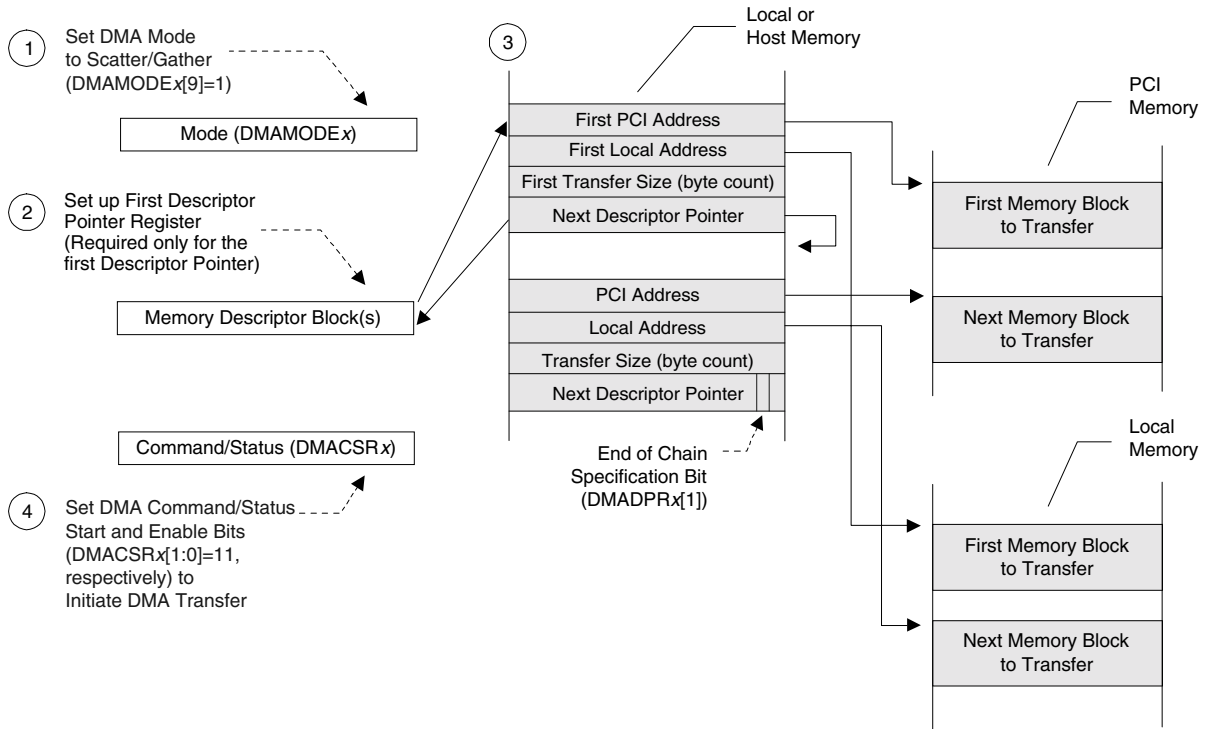

Figure 3-17. DMA Scatter/Gather Mode Descriptor Initialization [PCI SAC/DAC PCI Address (DMADACx) Register Dependent]
- DMADACx contain(s) a non-zero value. DMAMODEx[18] is set to 0. The PCI 9056 performs a Single Address Cycle (SAC) 4-Lword descriptor block load from PCI memory and DMA transfer with DAC on the PCI Bus. (Refer to Figure 3-17.) The DMA descriptor block starting addresses should be 16-byte-aligned.